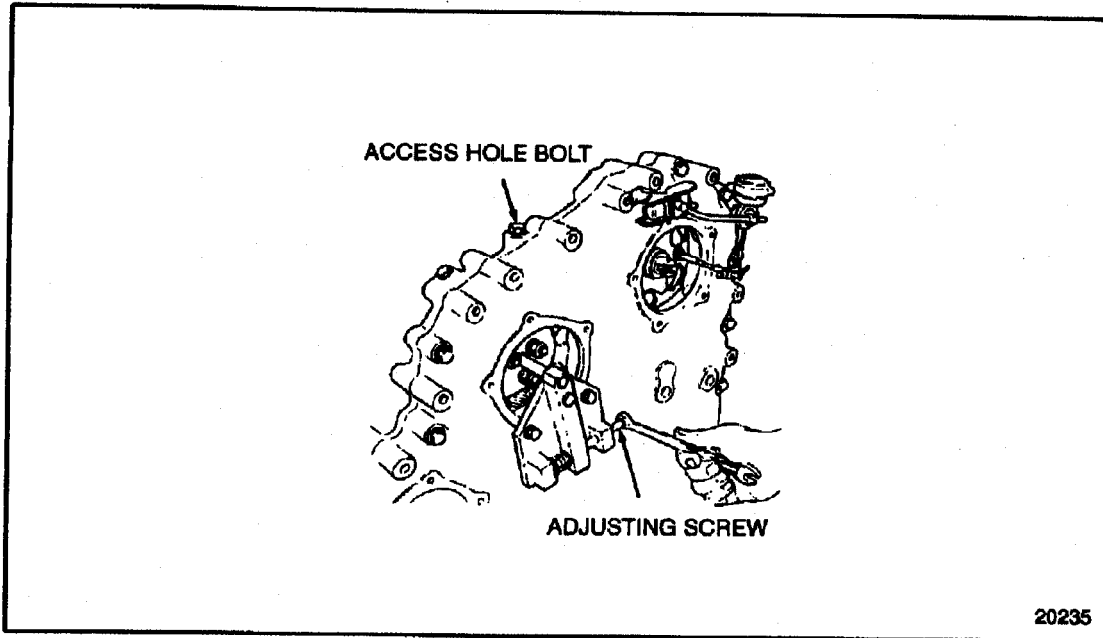

Figure 1-311 Adjustable Idler Gear-to-Camshaft Drive Gear Lash Adjustment
- [g] Turn the adjusting screw of the tool in a clockwise direction to force the adjustable idler gear against the camshaft drive gear, until there is zero lash between the two gears. See Figure 1-311.